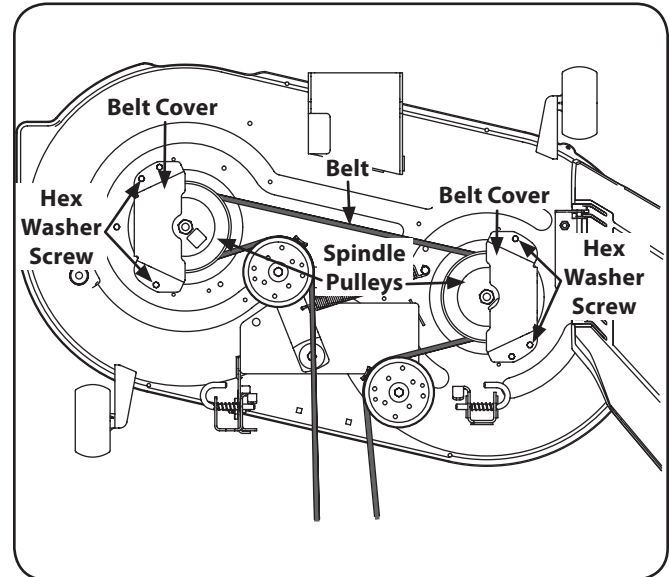

Figure 7-6
2. Remove the hex washer screws securing the belt covers to the deck and remove the belt from the spindle pulleys. Refer to Fig. 7-6.
3. Install the new belt around the spindle pulleys as shown in Fig. 7-6 and reinstall the belt covers.